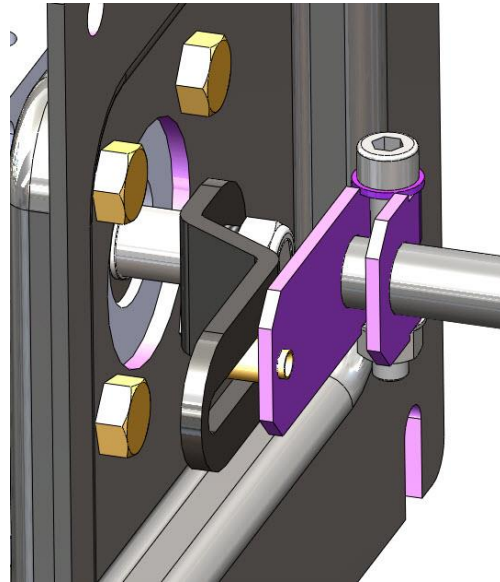

Figure 17: MaxFlo Assembly
- 3 Rotate the follower arm so that the take-off pin will slide into the slot on the follower arm. Adjust the bracket position as needed noting the engagement of the follower pin and the take-off arm slot. The pin should extend approximately 2 mm past the take-off arm. When properly adjusted, securely tighten the bracketing bolts. See Figure 17: MaxFlo Assembly.